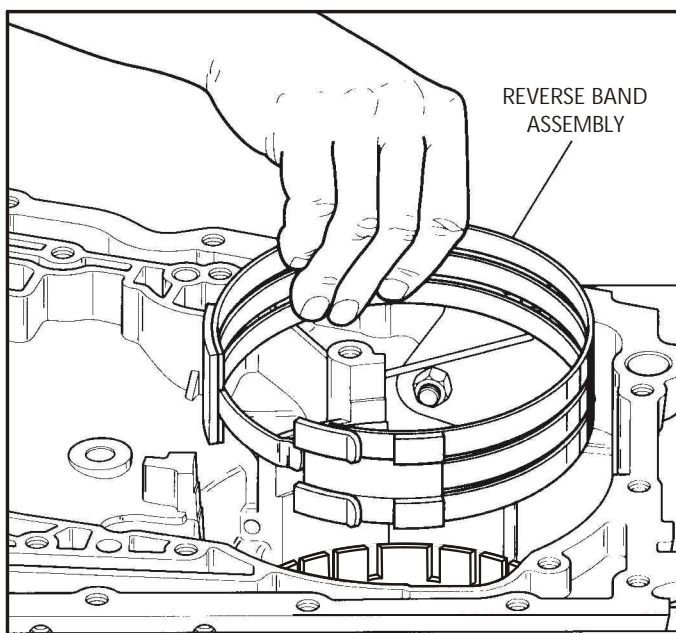

Figure 162
45. Install the reverse band assembly into the case and engage band end on the anchor pin. Refer to Figure 162.